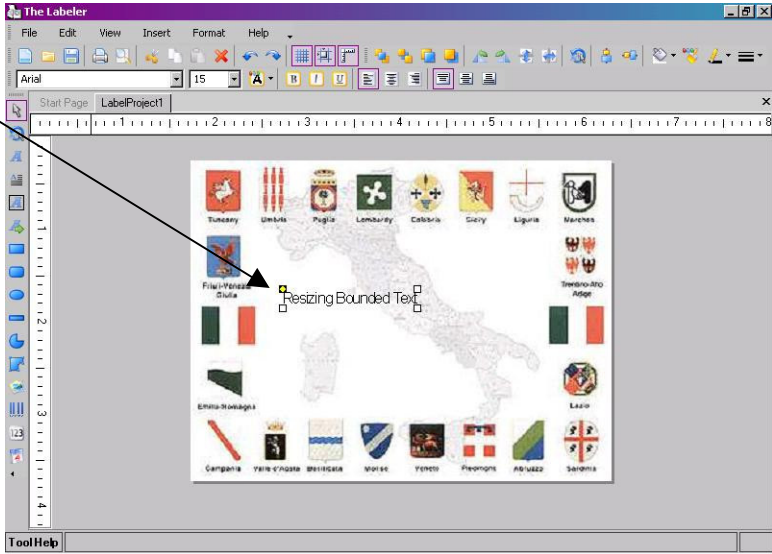

Figure 4.1.3.1: Select text to resize
6. Move the cursor over top one of the white square boxes that are located at each of the 4 corners of the text box (see Figure 4.1.3.2).